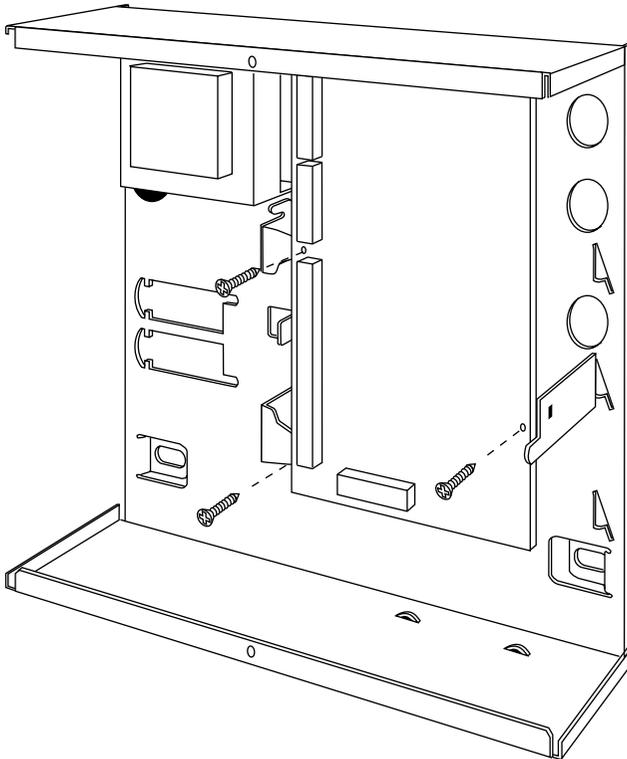

Figure 7. Fitting Control Unit PCB
2. Secure the PCB to the support pillars with the screws provided (Figure 7). Make sure that the bottom left corner of the PCB is seated on its support pillar.